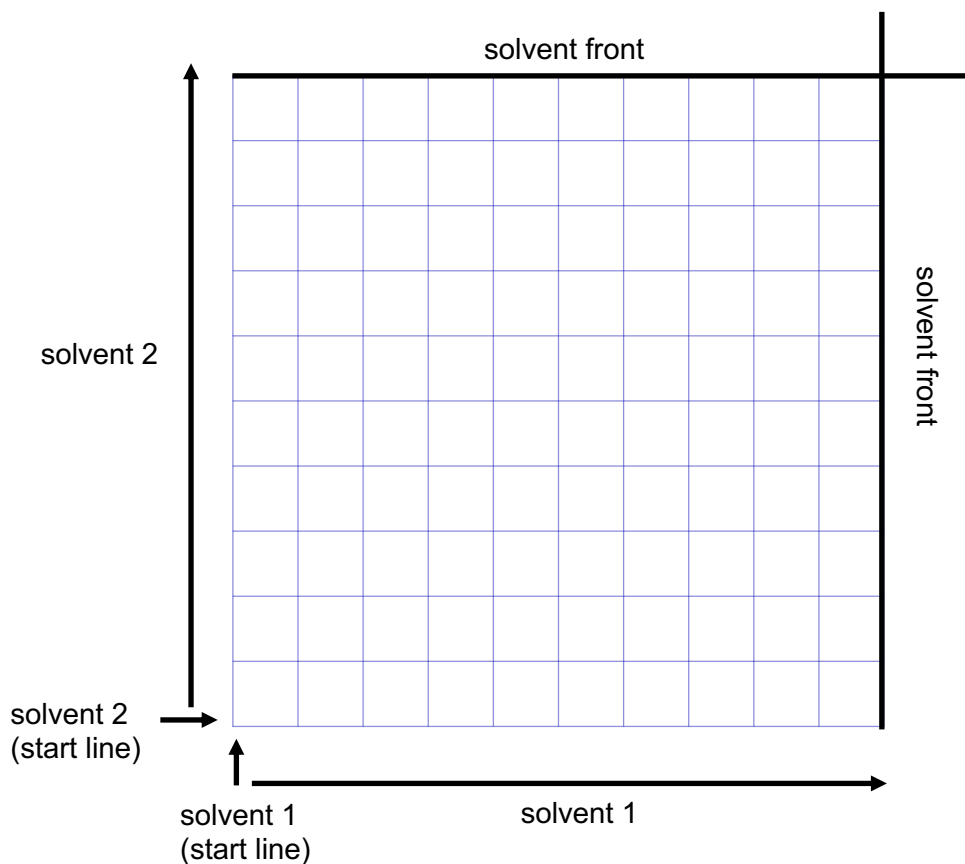

Fig. 2.2
- (d) With reference to Table 2.1, complete the chromatogram for amino acids **A**, **B**, **C** and **D** in Fig. 2.2 for the two-way paper chromatography using solvent 1 and 2.